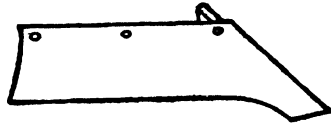

FIG. 83
14. Trim the point with a hot cutter until it conforms in shape to Fig. 83, and sharpen.